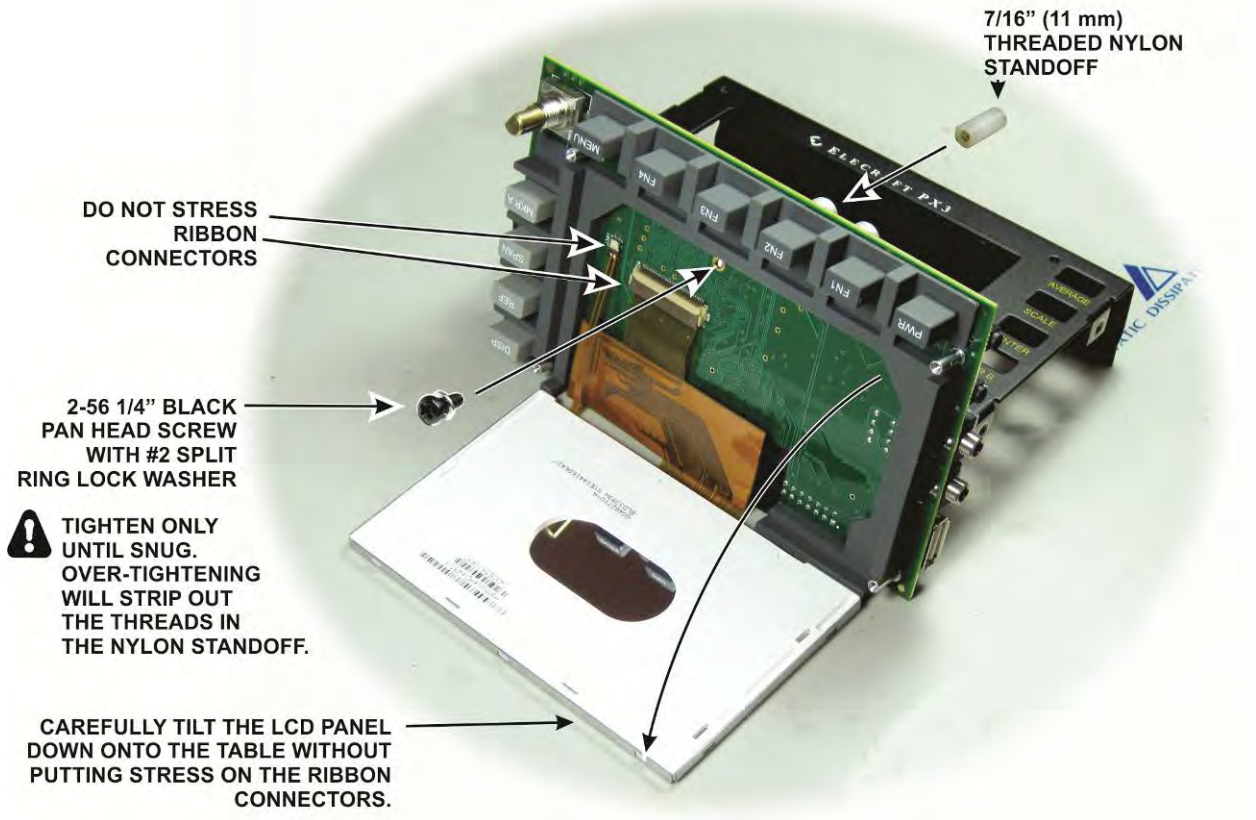
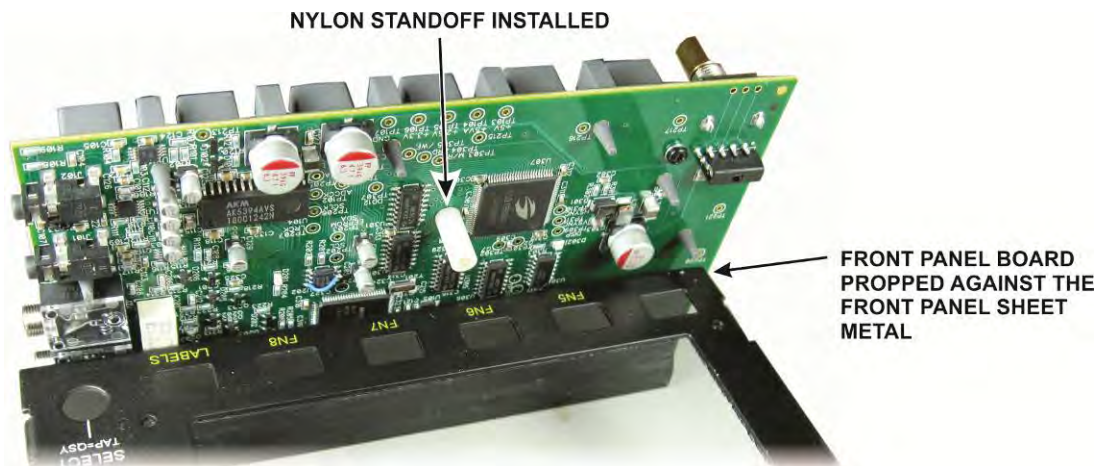

Figure 26. Installing the Nylon Standoff on the Front Panel PC Board.
Figure 27. Nylon Standoff Installed.
□ Locate the front panel. On the inside are four small pieces of conductive tape covering screw holes at each corner of the large opening for the LCD (see Figure 26). **Do not remove this tape!** It provides an essential ground for the LCD when the front panel board is mounted. Use a sharp knife point or other tool to open the tape over each screw hole. Work from the inside so you do not push the tape away from the panel. This is needed to mount the front panel board later, but first you will need to prepare the front panel board for installation in the next few steps.
□ Place the front panel face up on your work table. Carefully remove the rubber band holding the LCD in place and prop the front panel board up on its **top** edge against your work table. Install the threaded nylon standoff on the board as shown in Figure 26. Tighten only until the standoff is snug. Do not over-tighten or you will strip the threads in the standoff. The installed standoff is shown Figure 27, If one of the ribbon cables does come loose, see *Replacing the LCD* on page 51.